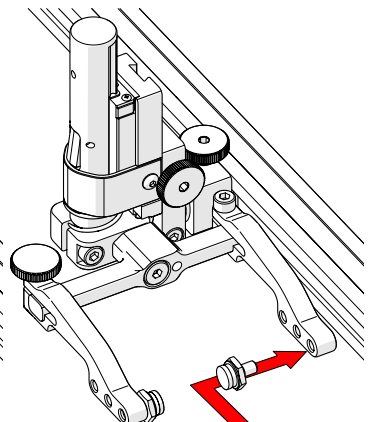

Fig. 173 - Place buttons
3. Position the pivot buttons where necessary. When a narrow scanning footprint is required, use the pivot button holes closest to the yoke (Fig. 173).